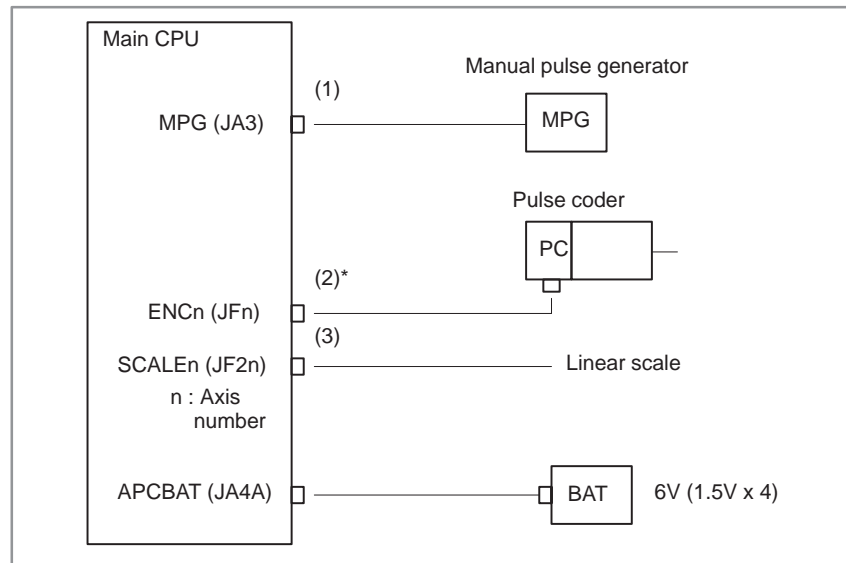

Fig. 5.2 (c)
- 1 If 6V battery is connected as shown Fig. 5.2 (c), absolute position of the machine may be lost when cable (2) is removed. Therefore, the machine position must be established by reference position return ,after releasing the alarm.